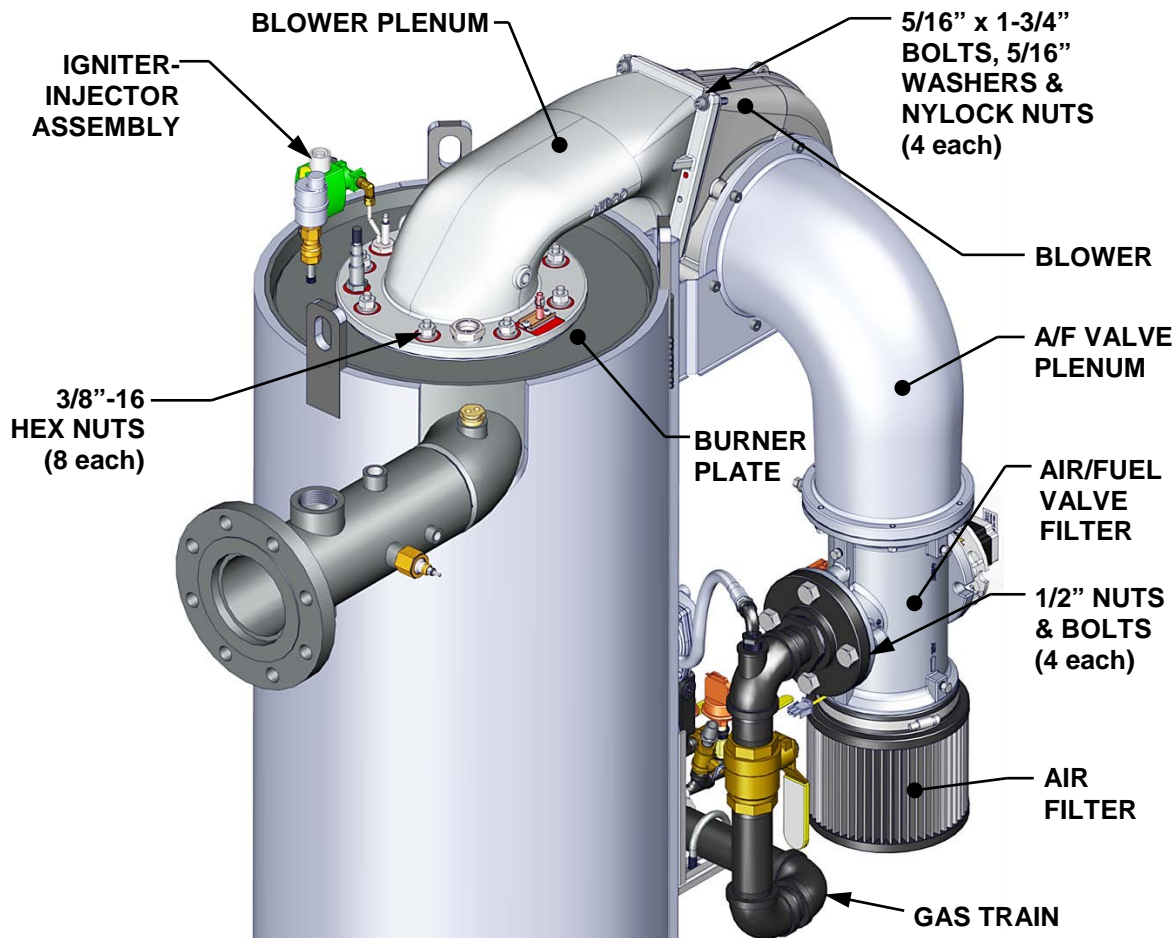

Figure 7-4a: Burner Assembly Mounting Details
10. Loosen and remove the four 5/16x1-3/4" bolts, washers, and nuts from the burner plenum where it is attached to the blower (see Figure 7-4a & 7-4b).
11. Remove the eight (8) 3/8-16 nuts, using a 9/16" wrench, attaching the blower plenum to the burner beneath (see Figure 7-4a & 7-4b).